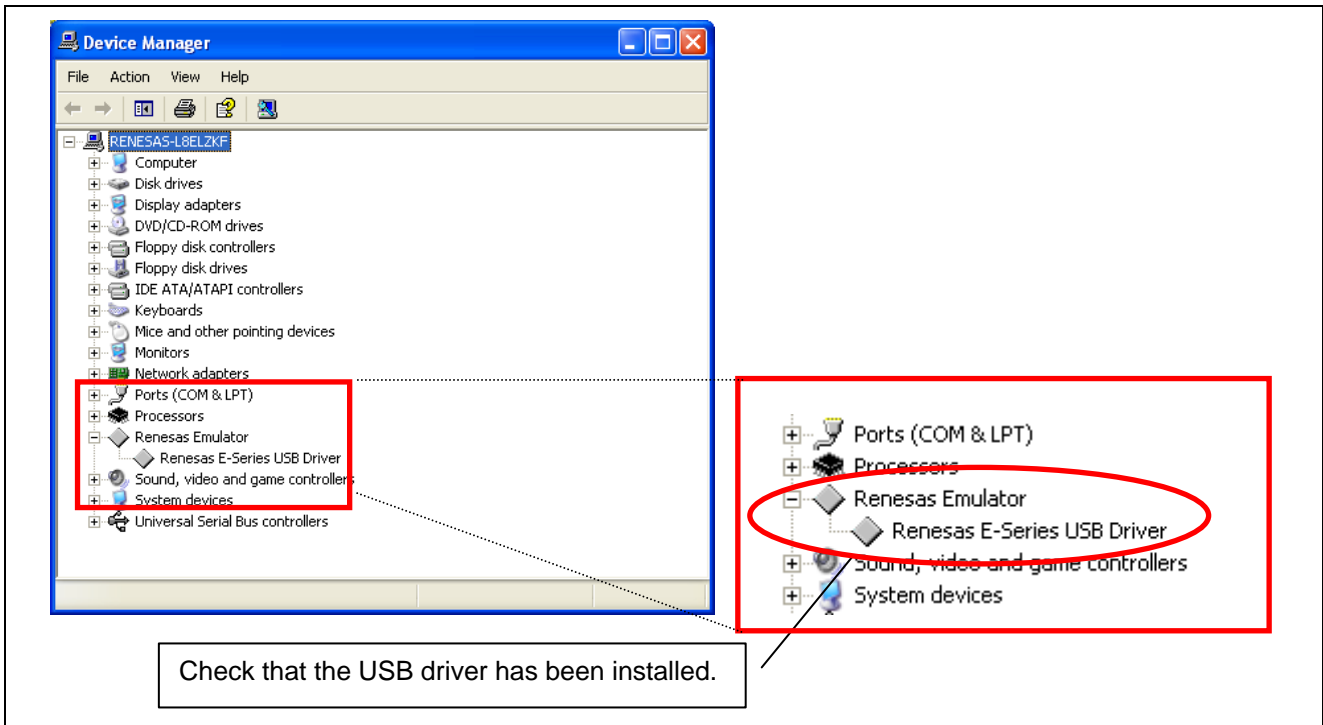

Figure 4.2 Device Manager
(3) Check that [Renesas E-Series USB Driver] is shown under the [Renesas Emulator] category (Figure 4.2).